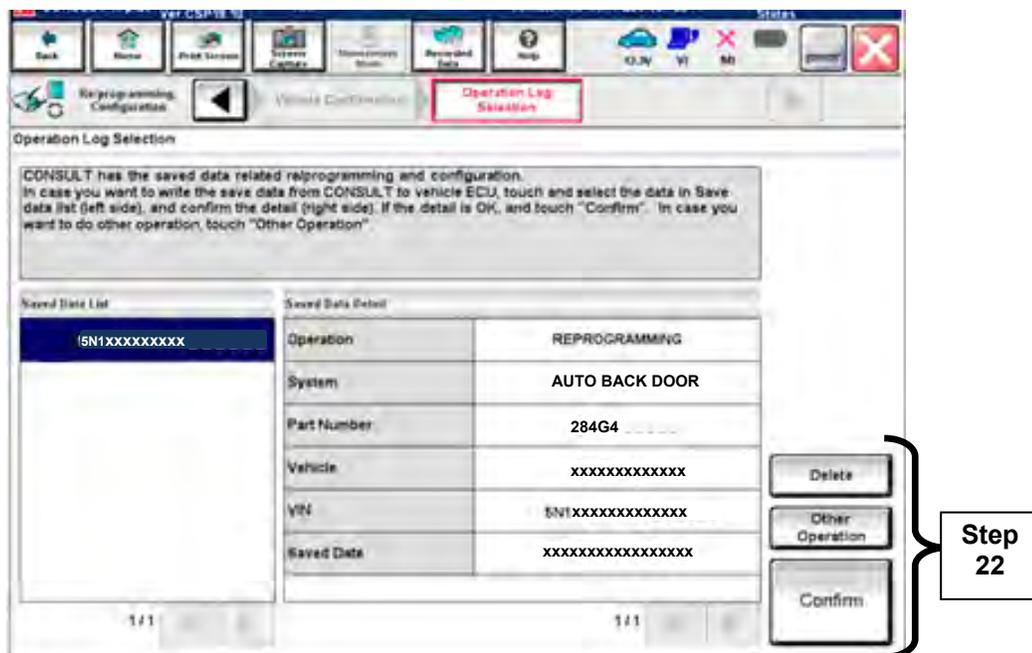

Figure 12
22. If the screen in Figure 12 appears, first select **Delete**, then **Confirm**, and then **Other Operation**.